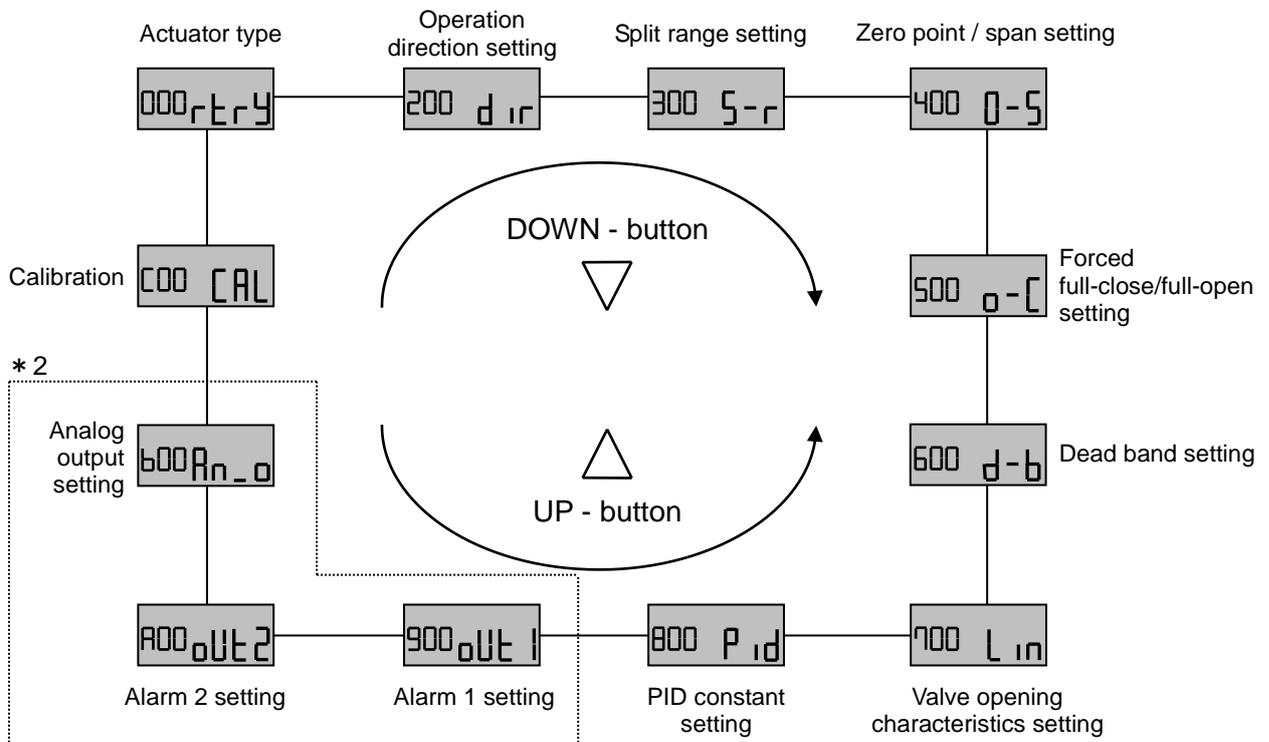

Fig. 23
- (1) When an input current is entered for the first time, only the parameter mode can be selected. According to "Initial Adjustment", calibrate the positioner.
- (2) After (1), the auto mode is displayed first when an input current is entered.
- (3) The parameter code is shown in Fig. 23. The standard product (without any option) has 8 setting items. The product with option output has 11 setting items. Select the parameters in order with the down-/ up -button (▽ or △).
- (4) Parameters stop with parameter codes flashing, and the codes can be changed by pressing the set button (⌂+△) for 1sec. or more. Push the down -/ up-button (▽ or △) to modify a value. After the value is decided, push the mode button (⌂) to go back to the parameter code flashing status *1.
- (5) To enter the lower hierarchy, press the set button (⌂+△) for 1sec. or more. To go back, press the mode button (⌂) for 1sec. or more, to display a sub menu.
- (6) See the next page, "Parameter Code Detail" for detail of parameter codes.
*2: The parameter surrounded by a broken line in Fig. 23 will not be shown for the standard type (IP8101-0 * 0) or the product with HART communication (IP8101-0 * 3).